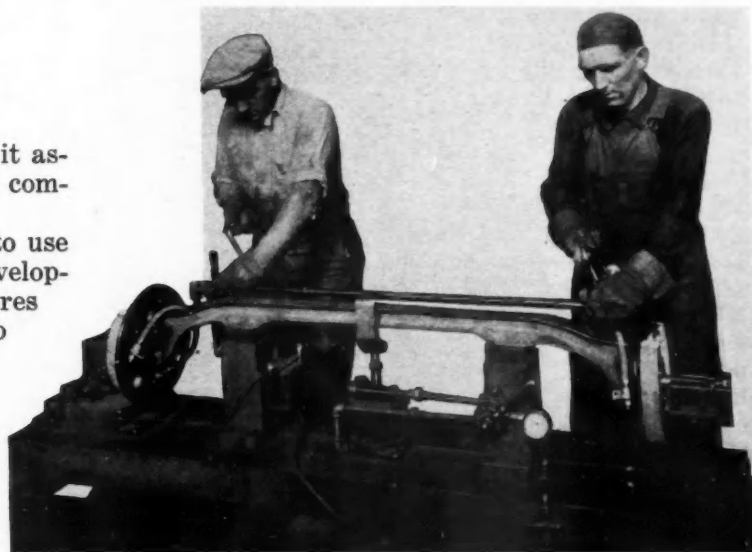

Fig. 4—Fixture for checking angle of steering knuckle
**I**NSPECTION and production functions are ably combined in the process of checking toe-in at Plymouth. As the axle comes off the assembly line it is lowered on to the checking fixture (Fig. 4). An air-operated clamp holds it at the center. One steering knuckle is set into the fixed block at the left, at the correct angle. Then the other knuckle drops into the adjustable block at the right.